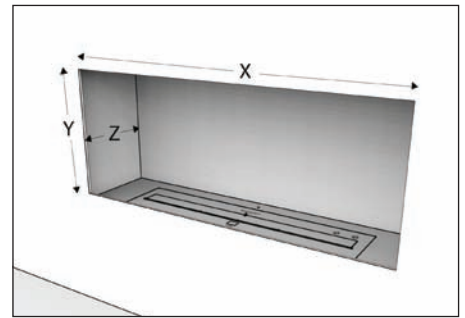

Fig.1
A. DIMENSIONES DE LA CAJA DE COMBUSTION PARA UNA INSTALACION “EN UNA CHIMENEA O PARRILLA” (Fig.1)